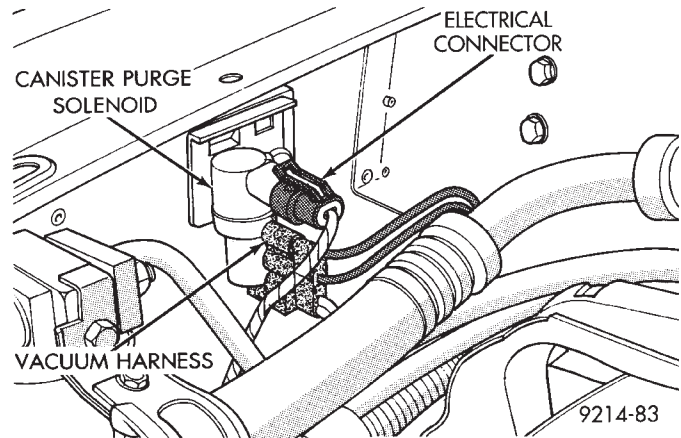

Fig. 18 Canister Purge Solenoid
(1) Remove vacuum hose and electrical connector from solenoid (Fig. 18).
(2) Depress tab on top of solenoid and slide the solenoid downward out of mounting bracket.
(3) Reverse above procedure to install.